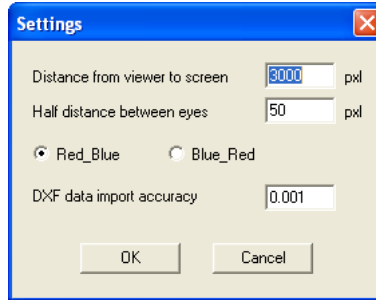

Figure 3-9 Settings dialog box
- From the **Access** menu, select **Settings**. The dialog box of Figure 3-9 appears.